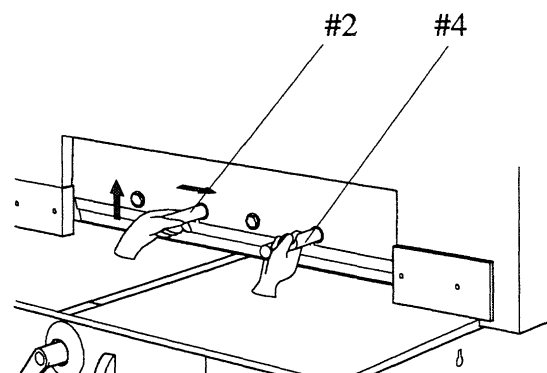

Fig.4-10
- Install knife change handles in holes #2 and #4 of new knife.(Fig. 4-10)
- Raise knife up to carriage and slide knife change handles into mounting holes. (Fig. 4-10)